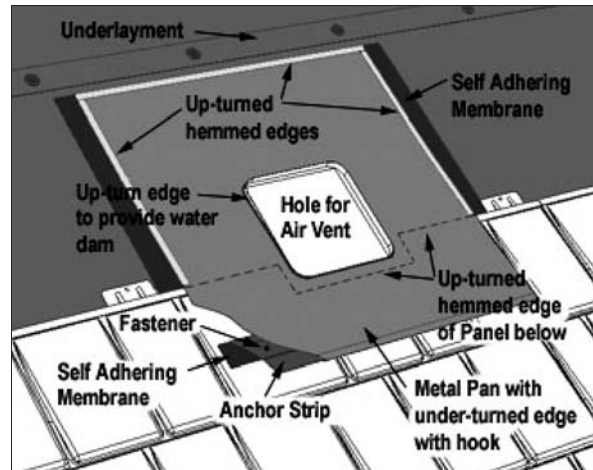

FIGURE 1-43 Roof Vent Construction Detail #1
Attic air vents made from steel or aluminum can usually be hemmed under to hook into the top edge of the panel below the penetration and hemmed up to provide the hook for the panel above. The side edges must be hemmed up to provide a water stop along the side edges. This hemmed edge can be used in conjunction with the Anchor Strip to secure the hemmed edge of the panel. For applications of air vents where hemming and tying into the roof assembly is either not possible (plastic vent) or the option of removing the vent at some time in the future is a possibility than the application should be done over a metal pan. *See Figure 1-43.*
2. Hem all non exposed edges of the metal pan up to provide a positive weather stop under the panels. *See Figure 1-43.*